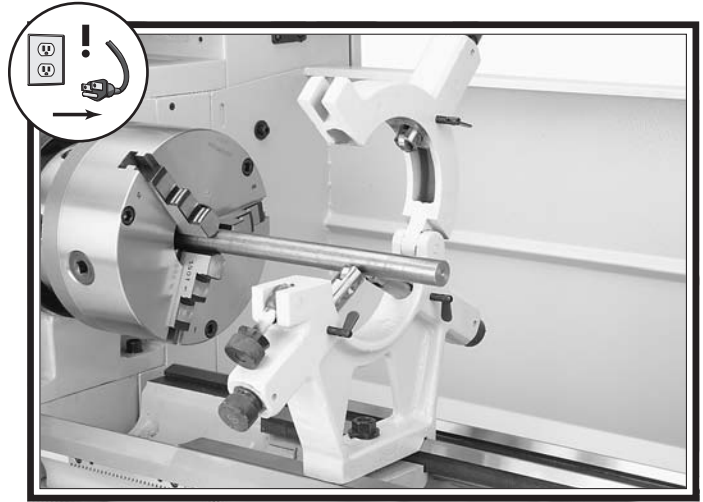

Figure 55. Workpiece mounted in the steady rest.
4. Loosen the clamp knob that secures the two halves of the steady rest and open the top portion, as shown in **Figure 55**.
6. Use the finger adjustment knobs to position the bottom two finger rollers against the workpiece, as shown in the example of **Figure 55**.